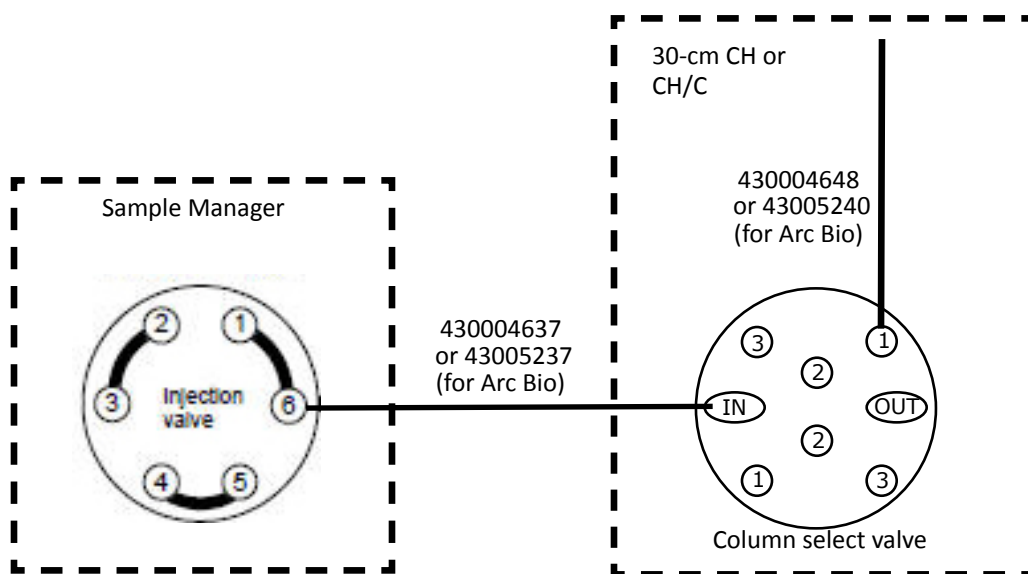

Figure 5 - Connecting an optional column selection valve
2. If the column heater includes a column selection valve (Figure 5):
- b. Connect tubing 430004648 (or tubing 430005240 for Arc Bio) to port 1 of the column selection valve (Figure 5), but do *not* connect the other end of the tubing to the column 1 inlet yet. You connect to the column only after instructed to flush the system.